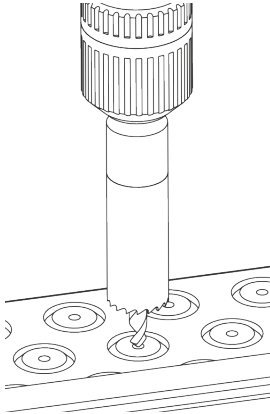

Figure 17: Cutting Cable Entry Holes
- Using the mounting holes in the back box, drill holes into the wall and insert wall plugs and secure the panel to the wall as shown in Figure 17. Ensure any dust is cleaned from the back box.